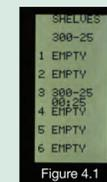

Figure 4.1
- 8 The shelf time for the selected shelf will start counting down. (Fig. 4.1)